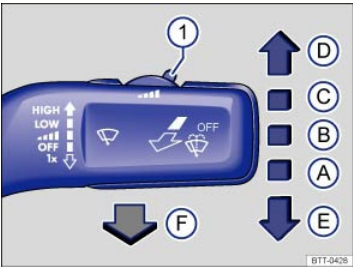

Fig. 85 Operating the front windshield wiper.
- (A) OFF** Wiper switched off.
- (B)** Adjust the interval settings with switch ⇒ *Fig. 85①*.